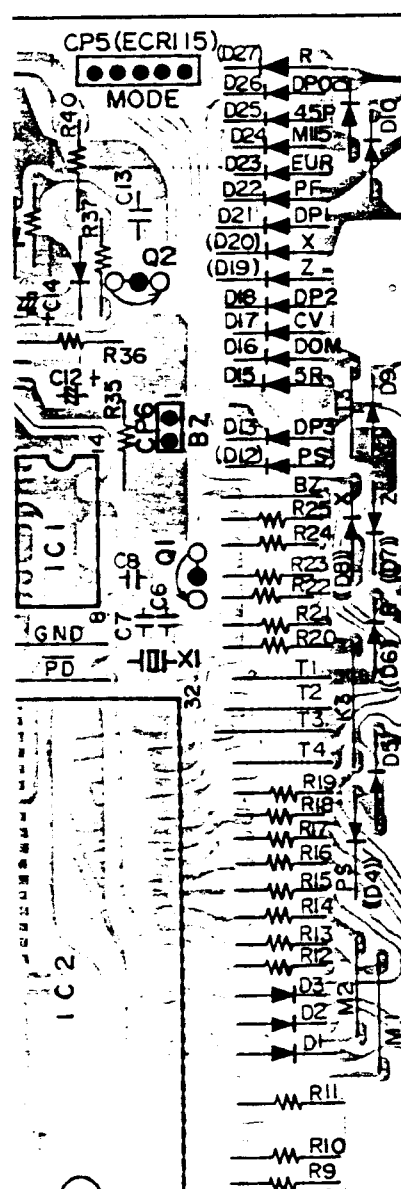

Fig. 6
The number of digits after the decimal point can be selected out of DP = 0, 1, 2 and 3 by diodes at the location marked DP0, DP1, DP2 and DP3. (Fig. 6)
DP0, DP1, DP2 and DP3. (Fig. 6)
These mode can be selected by diodes at the location marked EUR (D23) and DOM (D16). (Fig. 6)
(5) Don't use diodes at the location marked D14, D17 (CV) and D25 (45P). (Fig. 6)
(6) Mode switch selections
ECR 105: Add the diodes marked D4 (PS), D6 (R), D7 (Z) and D8 (X). (Fig. 6)
ECR 115: Add the diodes marked D12 (PS), D19 (Z), D20(X), D27(R). (Fig. 6)